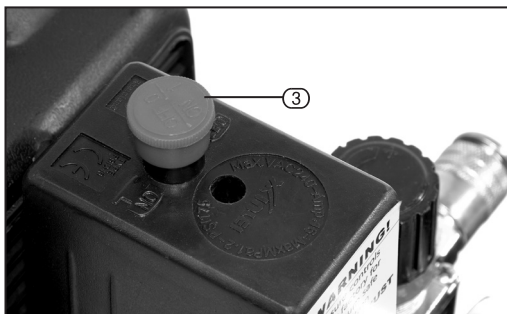

FIG. 2
6.2 INITIAL STARTUP – FIGS. 2 - 4